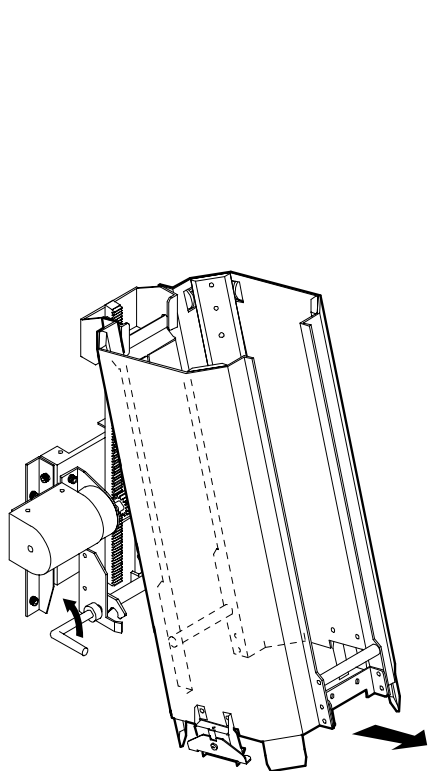

Fig. 7.3-1
- (1) Remove the supply stacker (stacker A, left side of unit) (Fig. 7.3-1).